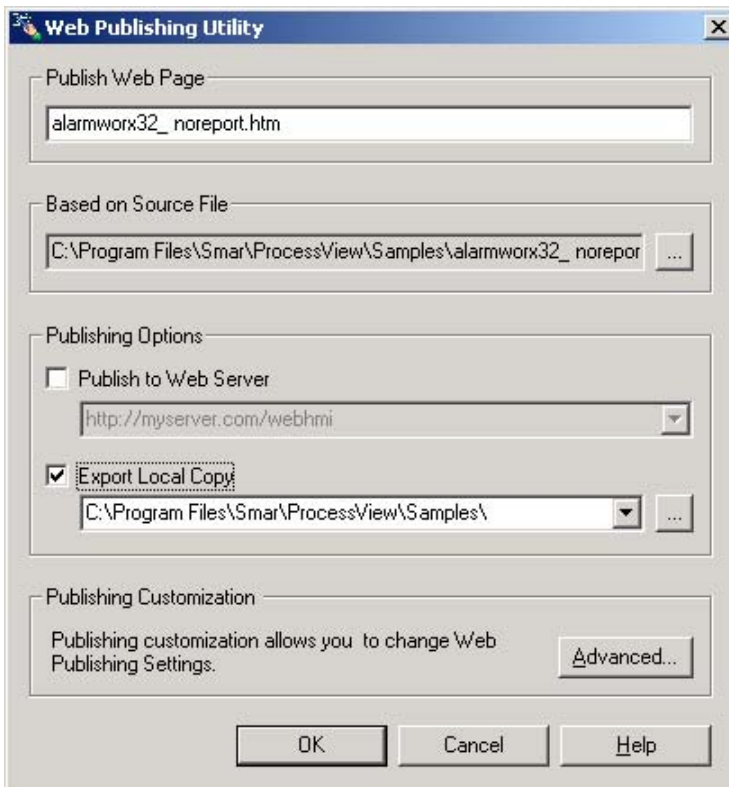

Figure 4.5. Specifying a GraphWorX Display File
- In the **Based on Source File** field of the Web Publishing Wizard, you must specify the name of the GraphWorX display (.gdf) file to be exported, as shown in **Figure 4.5**. To choose a different display, click the ... button to the right to browse for a file. Select a file and then click **Open**. The directory path and the file name are shown in the text field.